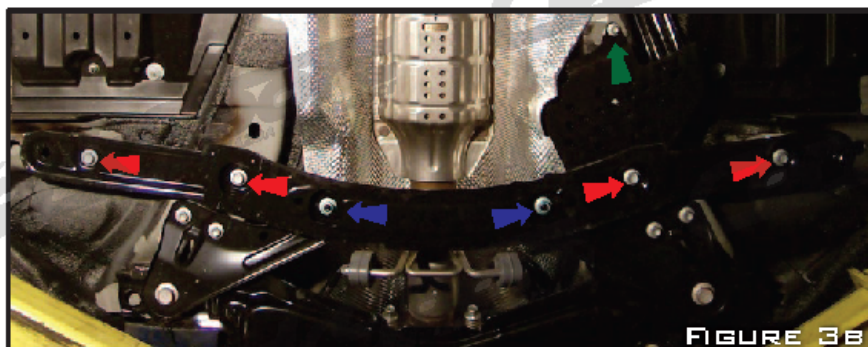

FIGURE 3B
B. REMOVE THE FRONT CHASSIS CROSSMEMBER BY REMOVING THE FASTENERS SHOWN IN FIGURE 3B: 4X 14MM BOLTS, 2X 14MM NUTS AND 1 X 10MM BOLT HOLDING BRAKE LINE SHIELD TO THE CHASSIS.